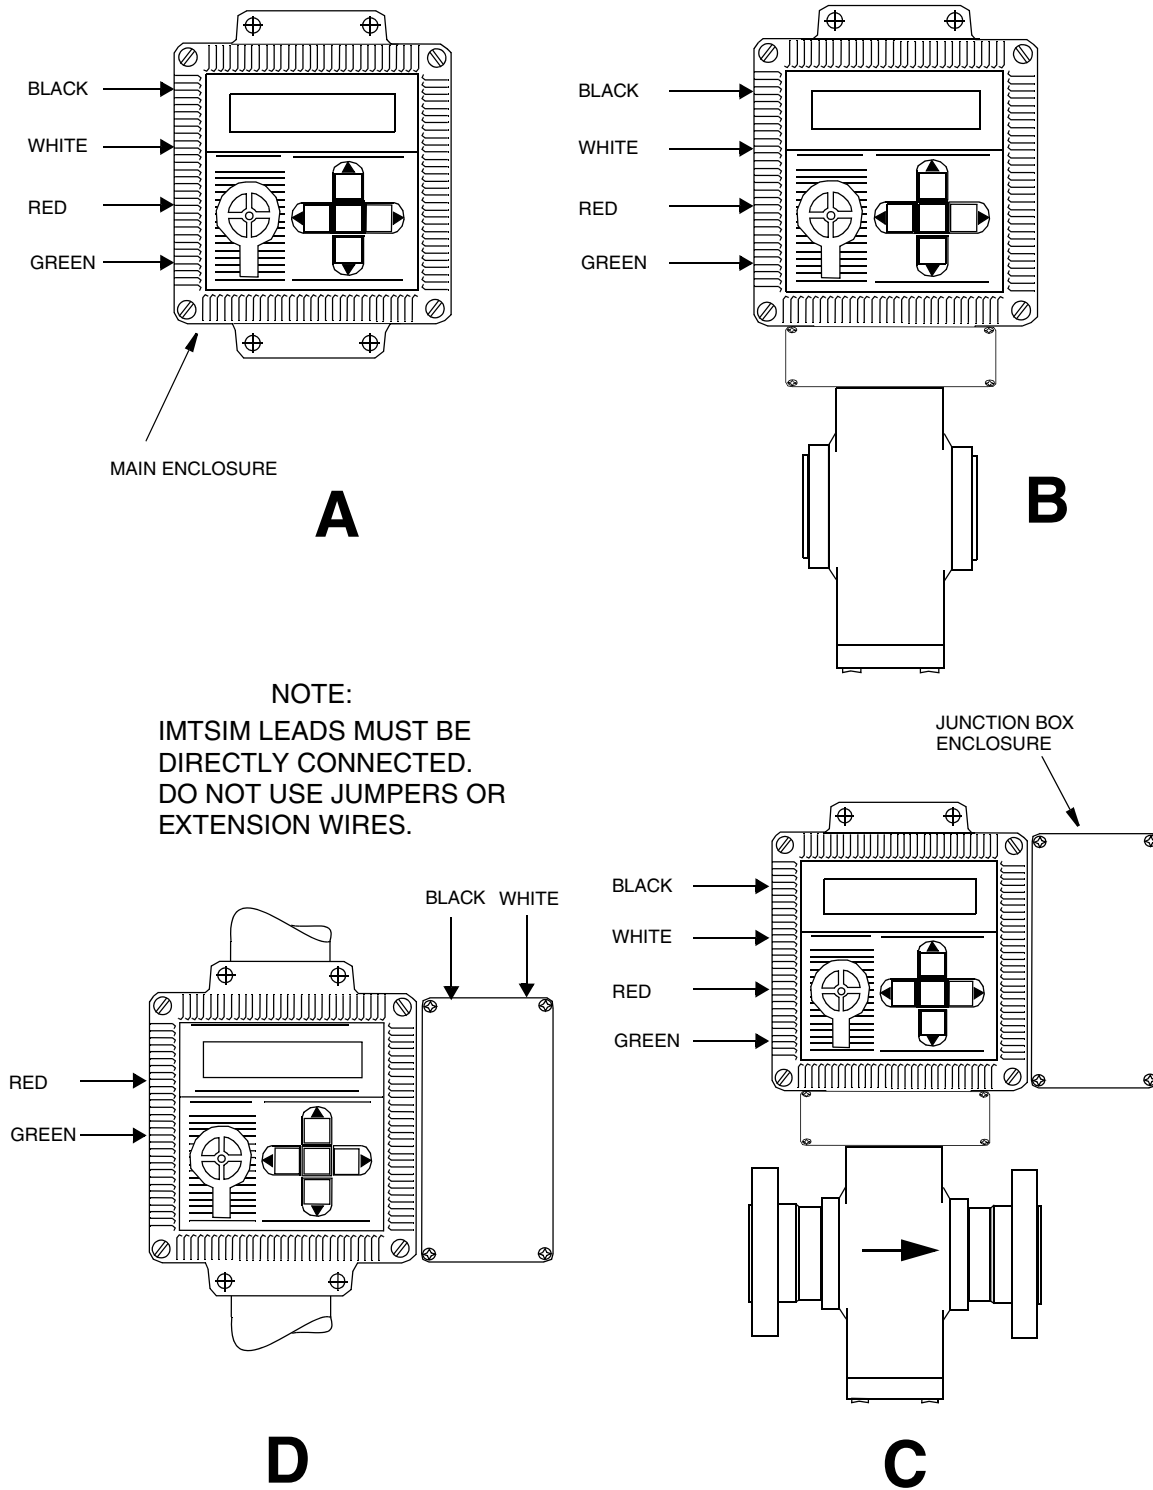

Figure 5. Connecting the IMTSIM to an IMT25 Transmitter
3. IMTSIM connections (refer to Figure 5 on page 7).
4. IMTSIM connection (refer to Figure 5 on page 7):
4. IMTSIM connections (refer to Figure 5 on page 7):